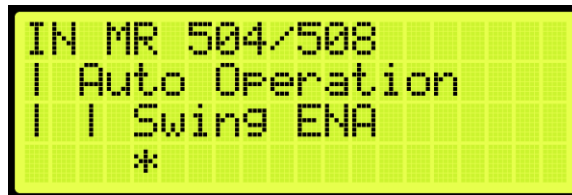

Figure 476: Input Menu – Enable Swing
8. Scroll and select Enable Swing (See Figure 476)